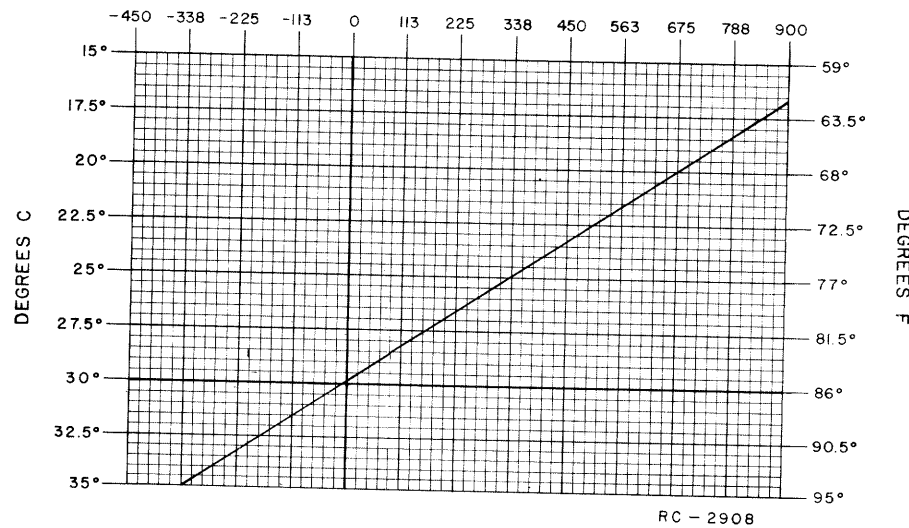

Figure 3 - Crystal Module Frequency Offset Chart
First, check the frequency to determine if any adjustment is required. (Refer to frequency offset chart, Figure 3.) The frequency measurement requires equipment with an absolute accuracy that is 5 to 10 times better than the tolerance to be maintained. When adjusting the frequency, the entire radio should be as near as possible to an ambient temperature of 30°C (86°F).
To set crystal frequency using "beat frequency" method, the temperature should be at 30°C (86°F). If the temperature is not 30°C, then offset the "ON FREQUENCY" signal (at the receivers input), as a function of actual temperature, by the frequency ERROR FACTOR shown in Figure 3.
2. Maintain the radio at 30°C ($\pm 5^\circ\text{C}$, -10°C) and offset the oscillator, as a function of actual temperature, by the frequency error shown in Figure 3.